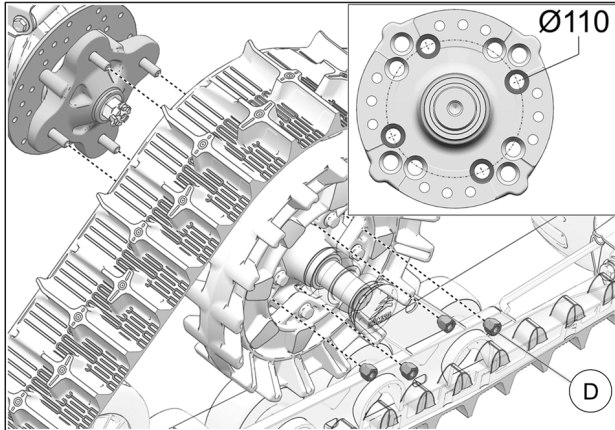

Fig. 9
8. Secure undercarriage to rear hub using the provided M10 lug nuts (D). Use bolt circle  $\text{\O}110$  mm. See Fig. 9